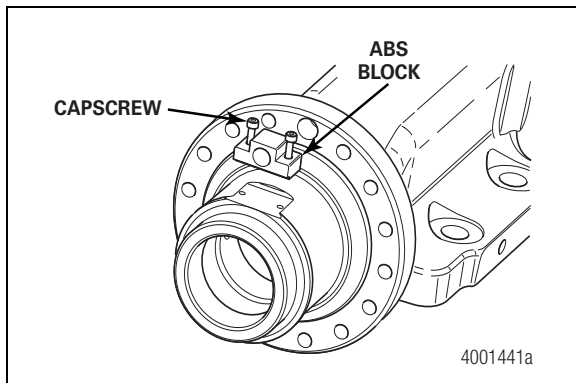

Figure 5.9
- For cast housings, use M6x1 socket-head capscrews to secure the ABS sensor block to the housing. Tighten the capscrews to 8-12 lb-ft (11-16 N•m). Figure 5.9.